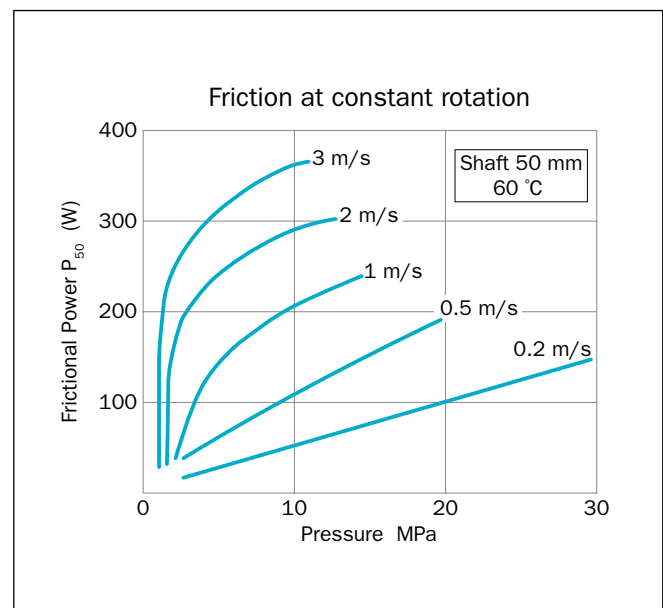

Figure 144: Frictional power for Turcon® VL Seal® F
Guide values for the frictional power (P) can be determined from the graph in page Figure 144. They are shown as a function of the sliding speed and operating pressure for a shaft diameter of 50 mm with an oil temperature of 60 °C. At higher temperatures, these application limits must be reduced.